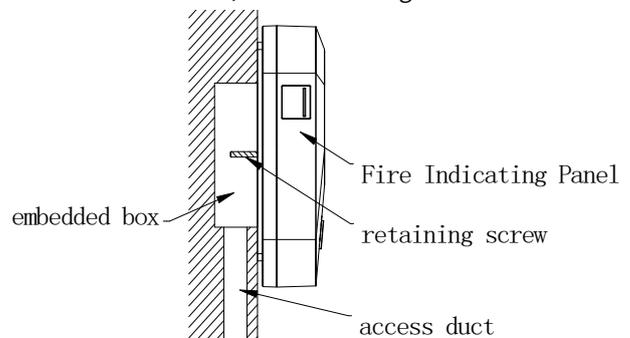

Fig.9 Fixing of the Fire Indicating Panel
**Fixed Fire Indicating Panel:** Align the guide groove at the back of Fire Indicating Panel with the fixed base, and press the Fire Indicating Panel firmly until the guide groove is completely match the fixed base, as shown in Fig.9.